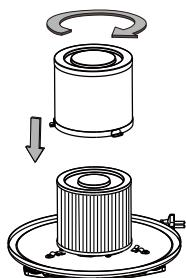

Fig 2
- Place the filter cage over the cartridge filter; press and turn clockwise to lock it into place (Fig. 2).